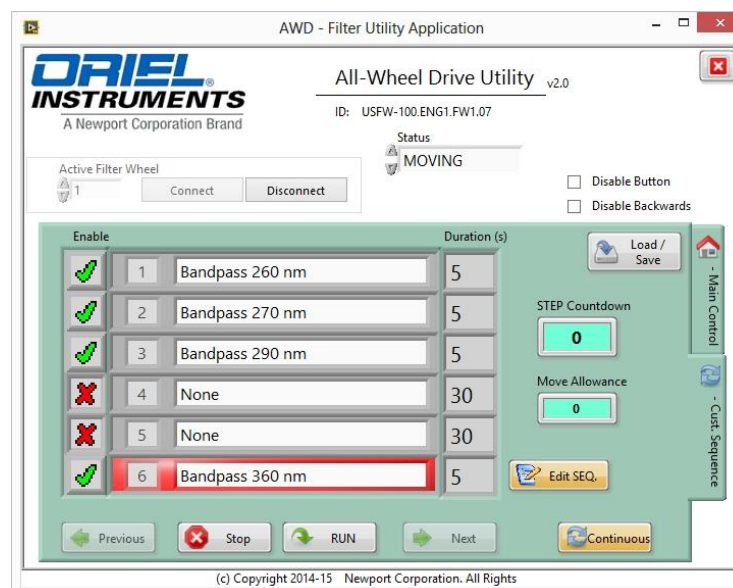

Figure 23: Custom Sequence Page
7. Custom Sequence – A custom order of filters and durations at each filter can be selected. On the right side of the Application is a tab selector; you can click the “Cust. Sequence” tab to see this page. (see Figure 23) Clicking on a row will move to that filter position. Clicking the “Run” icon will run the sequence once from top to bottom. Clicking the “Continuous” icon will run the sequence repeatedly. Clicking the “Stop” icon will stop any currently running Sequence, and the filter wheel will pause at its current position.